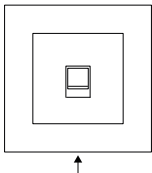

Figure 1
- 1 - To open the Stark QP LAN, use a flat screwdriver and pry open the 2 pins at the bottom (Figure 1)